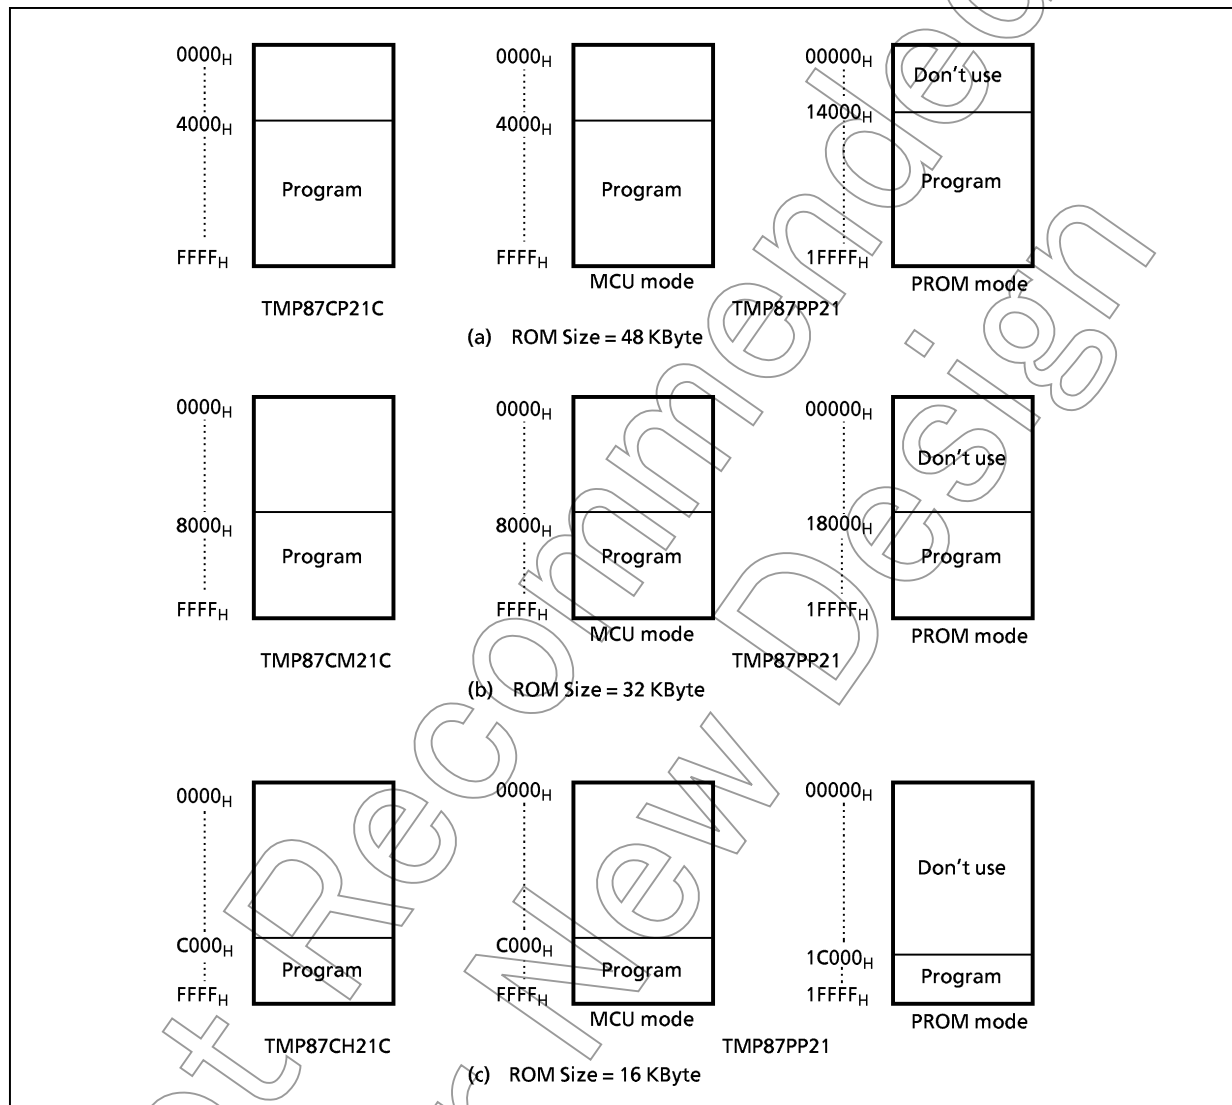

Figure 1-1. Program Storage Area
When the TMP87PP21 is used as a system evaluation of the TMP87CH21C/M21C/P21C, the data is written to the program storage area shown in Figure 1-1.
- (1) Adapters
- (2) Adapter setting
- (3) PROM programmer specifying
- In the TMP87PP21, EPROM is within the addresses 14000H to 1FFFFH. Data is required to be transferred (copied) to the addresses where it is possible to write. The program area in MCU mode and PROM mode is referred to "Program memory area" in Figure 1-1.
- (4) Writing